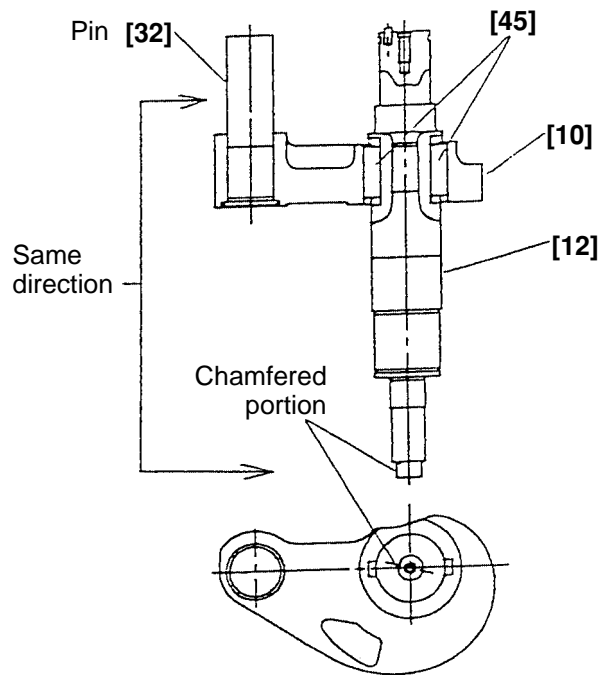

Fig. 21
(2) Reassembly of the cam shaft unit (Fig. 21)